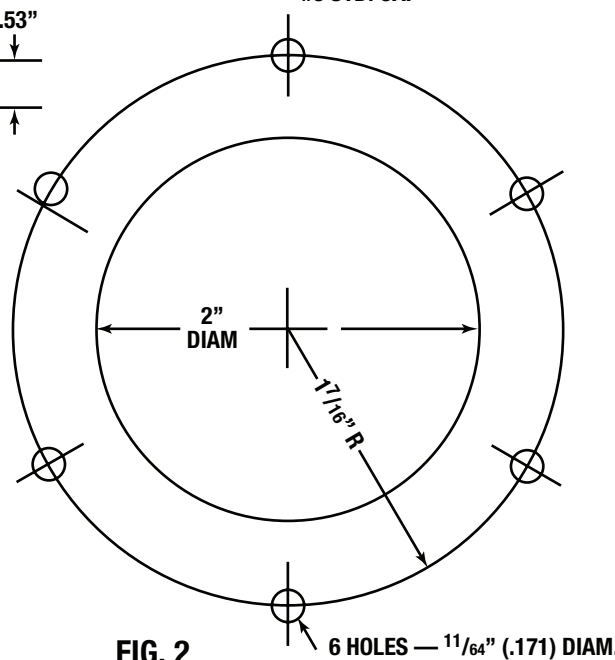

FIG. 2
If you have computer controlled laser cutting or punch machine control then you will want to load the layout in figure 2 into your machine control program. The mounting surface should be fabricated as outlined in (Figure 2 below) with 2" diameter opening for the fill screen and 6 - 11/64" (.171) diameter holes for the 10-24 self-tapping screws furnished with the unit.
If you don't have computer aided design and choose not to use Lenz LWR-1 weld riser simply cut out (Figure 2) from this sheet and tape it on the desired mounting location. Mark distinctly with a center punch the center of 2" diameter opening and the centers of each of the six (6) - 11/64" diameter self-tapping screw holes. After removing the template, the 2" diameter opening can be made with a 2" diameter hole saw, using the center mark for pilot drill location. In drilling the six (6) 11/64" (.171) diameter holes CARE SHOULD BE TAKEN NOT TO DRILL OVERSIZED HOLE to insure sufficient material for the self tapping screw threads.